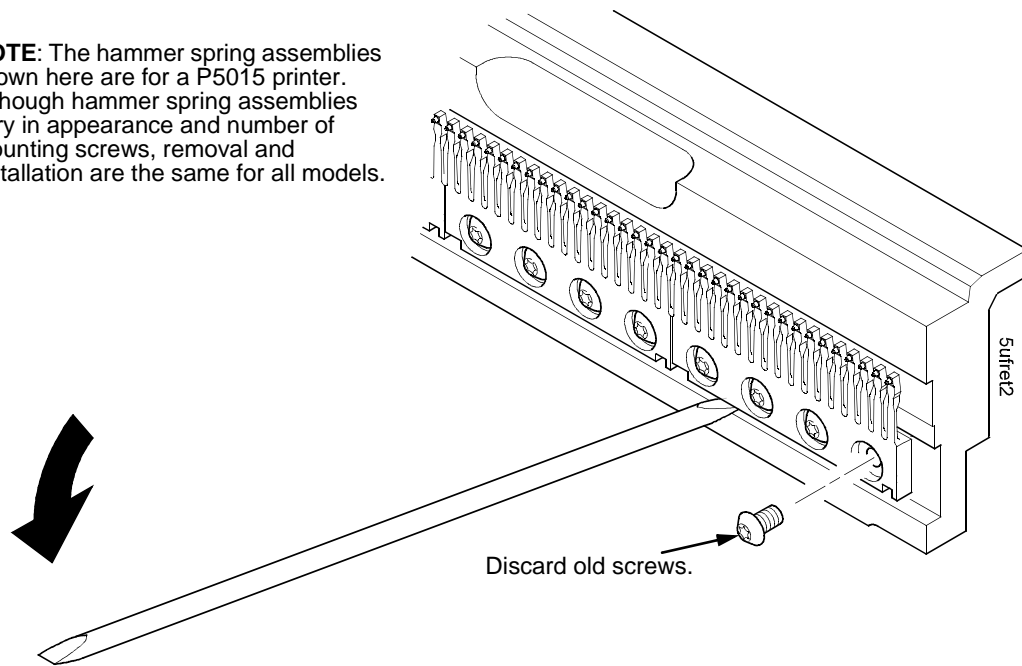

Figure 24. Hammer Spring Assembly, Removal
5. Remove the mounting screws from the old hammer spring assembly. (See Figure 24.)
6. Handling the hammer spring assembly by the mounting base only, gently push up the mounting base and pry the old spring assembly off its mounting pins. (See Figure 24.)